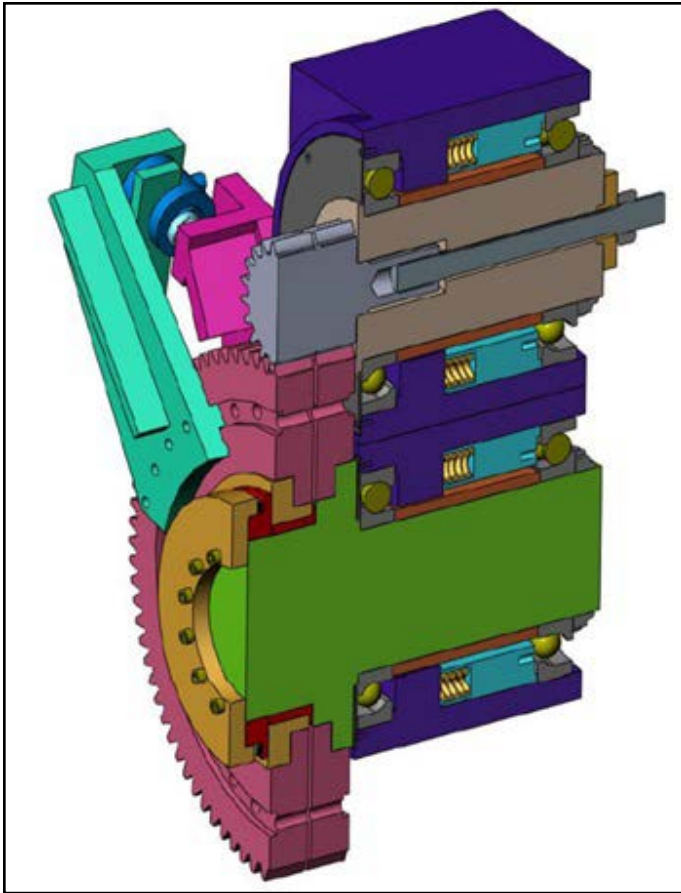

Figure 2 Retained principle for the test bench.
- A compact back-to-back concept using a solid pinion (at the top of Figure 2) meshing with two independent gear wheels on the opposite flanks of the pinion. The loading is obtained by applying two opposite torques on each gear wheel.